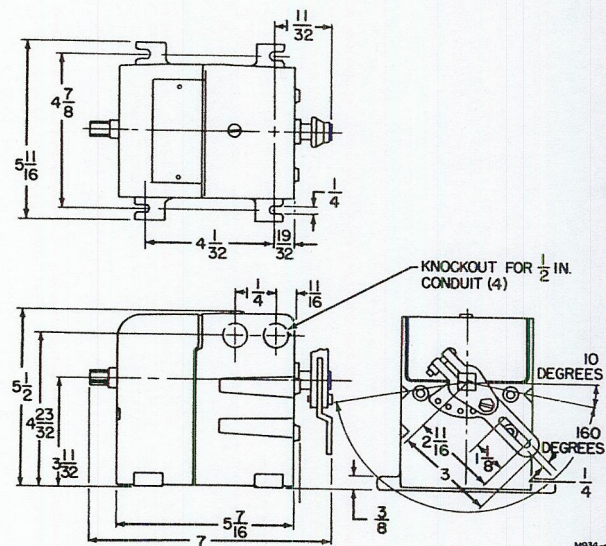

Fig. 1—Approximate Dimensions in Inches.
**construction:** The M634 is a reversible shaded pole motor containing a suitable gear train to give the proper torque and timing. A sturdy metal case houses the gear train and drive motor which are oil immersed to provide long life and quiet operation. The case is sealed and under normal conditions the oil fill requires no field maintenance. Knockouts for half-inch conduit are provided for wiring purposes and four mounting feet insure secure positioning of the motor (see Fig. 1).
**DIMENSIONS:** See Fig. 1.